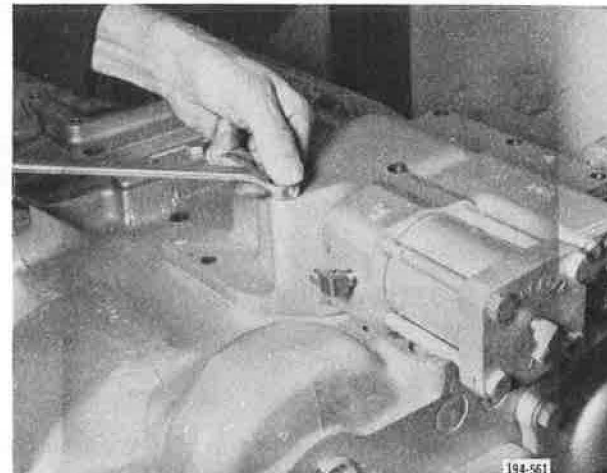

Figure 5-560. Installing Capscrews
12. Install air shift cover capscrews, and tighten to recommended torque. See Figure 5-560. Refer to Torque and Tolerance Table, Item 3.